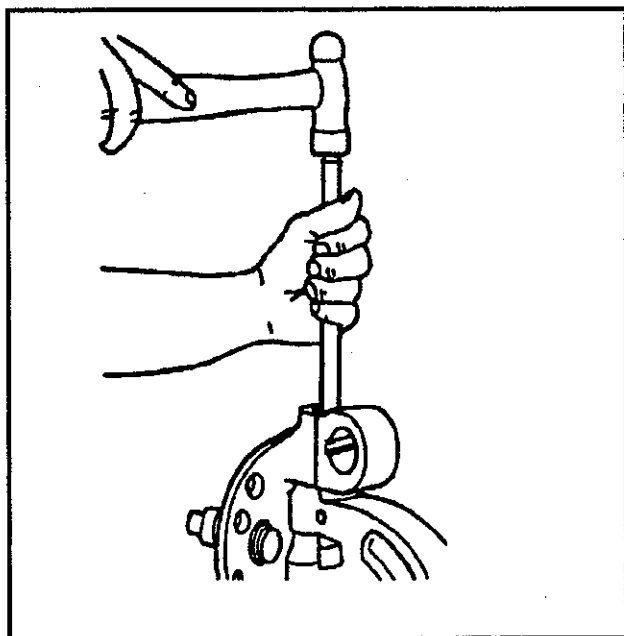

Figure 9—Removing King Pin
12. Drive out the king pin. (See Figure 9—Removing King Pin.)